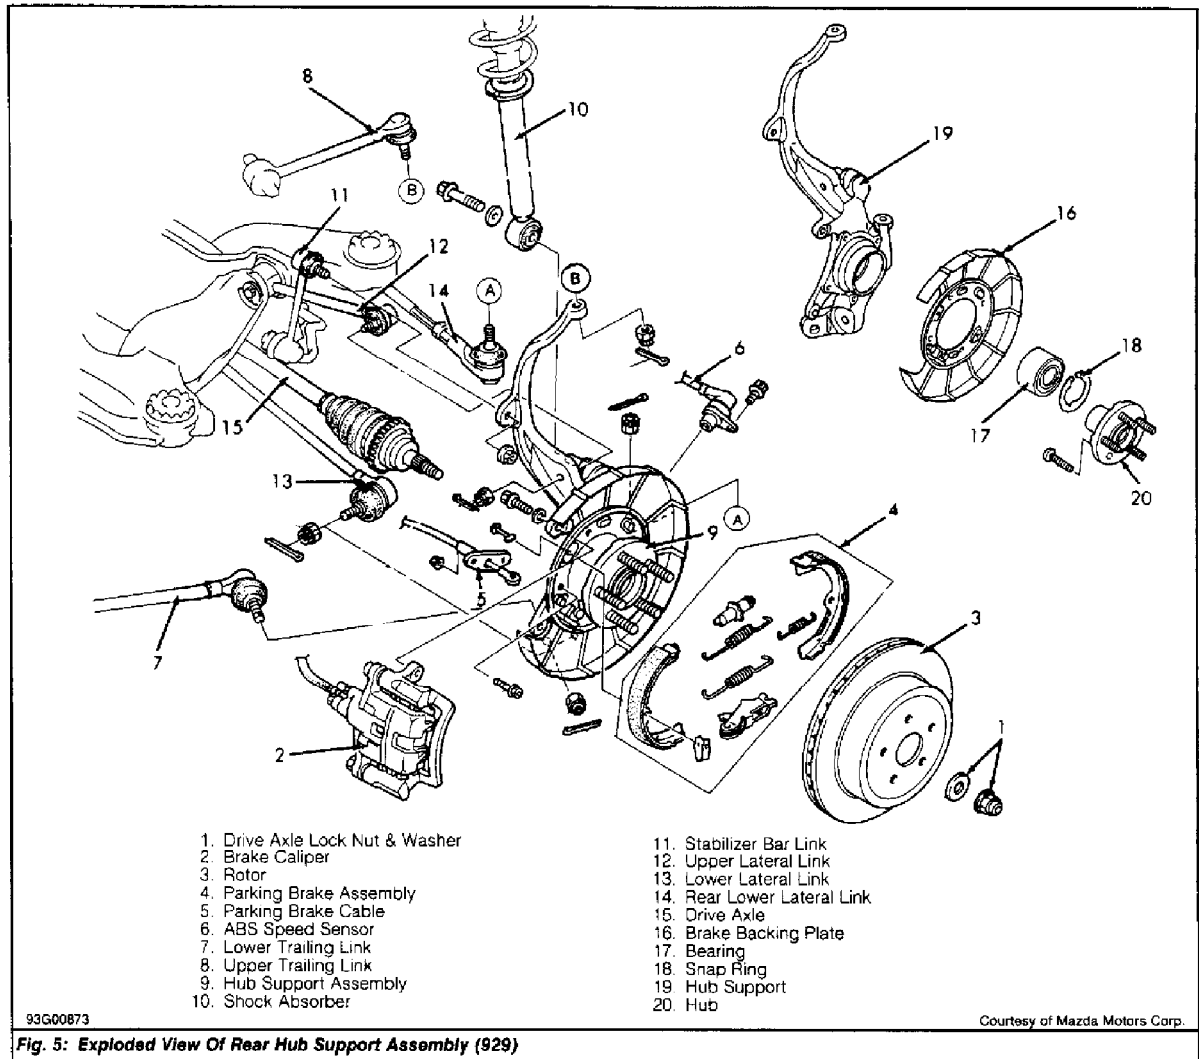

Fig. 4: Exploded View Of Rear Hub Support Assembly
1) Raise vehicle and support with safety stands. Remove wheel and tire assembly. Remove brake caliper and support aside. See Fig. 4. Remove rotor from hub.
5) Loosen brake backing plate. Using Puller (49-H026-108) and Installer (49-V001-795), remove hub from hub support. See Fig. 4. Remove brake backing plate from hub support. Remove snap ring retaining bearing. Press bearing from hub support using Puller (49-H026-108), Handle (49-B001-797) and Attachment (49-G026-102).